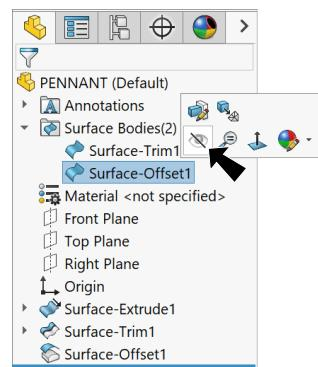

Fig. 17
Step 1 Hide Surface-Offset1 . To hide, expand Surface Bodies  folder in the Feature Manager. Click Surface-Offset1  and Hide  on the context toolbar, Fig. 17.